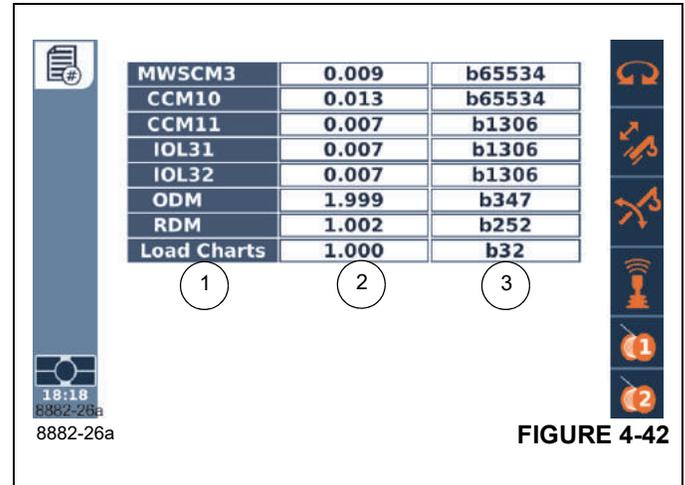

FIGURE 4-42
The Software Version Screen (Figure 4-42) displays the current software version for all of the software installed on the crane. This is a view only screen.
**NOTE:** The Software Version shown in Figure 4-42 may not match those installed in the crane.